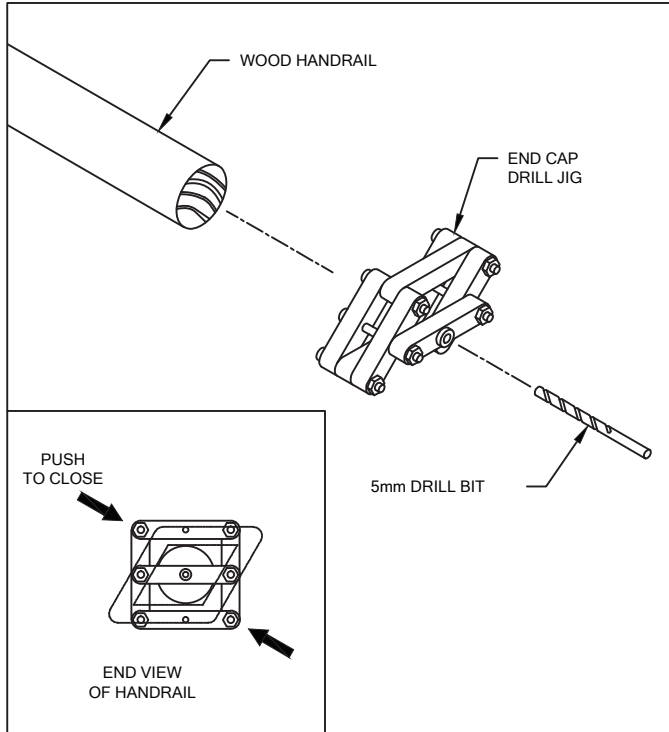
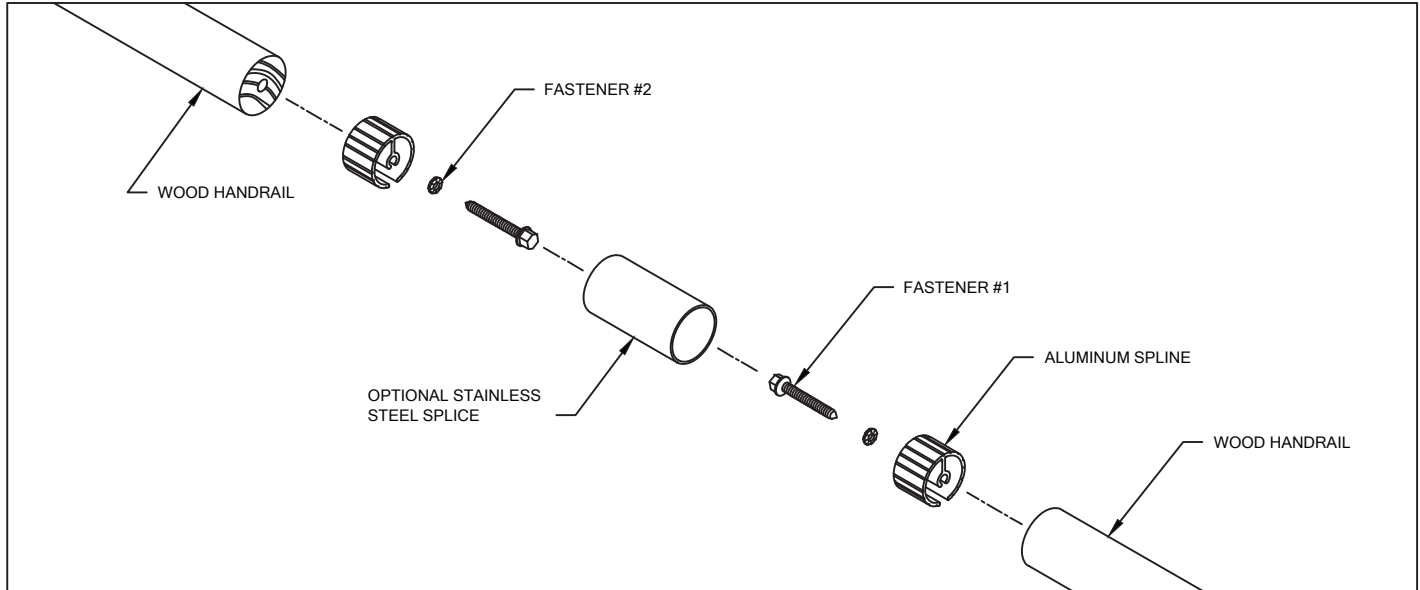

FIGURE 5.
FIGURE 9.
5. INSTALL HANDRAIL SPLICE IF REQUIRED (SEE FIGURES 5 & 8). FOR OPTIONAL STAINLESS STEEL SPLICE REFER TO FIGURE 9.
- 9.1. DRILL PILOT HOLE AS PER DRILL JIG INSTRUCTIONS (SEE FIGURE 5).
DRILL JIG FOR END CAPS/CORNERS AND OPTIONAL STAINLESS STEEL SPLICE. REFER TO FIGURE 5.
- 2.1. DRILL PILOT HOLES AS PER OPTIONAL SPLICE DRILL JIG INSTRUCTIONS (SEE FIGURE 5).